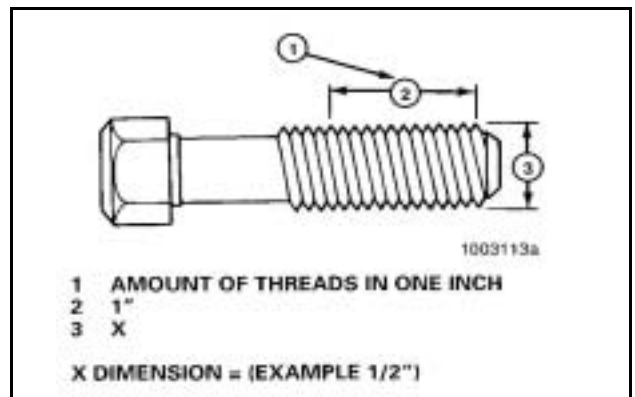

Figure 130
- b. Count the amount of threads there are in one inch (1.0 inch). **Figure 130.**